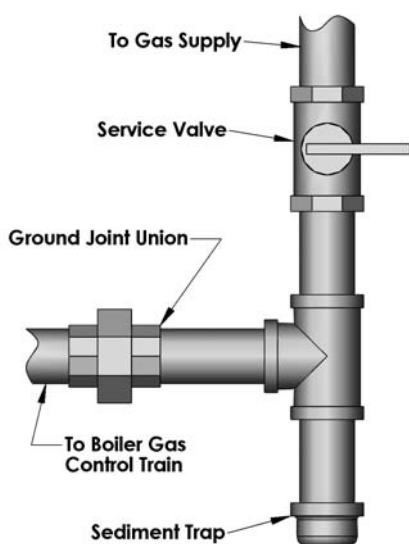
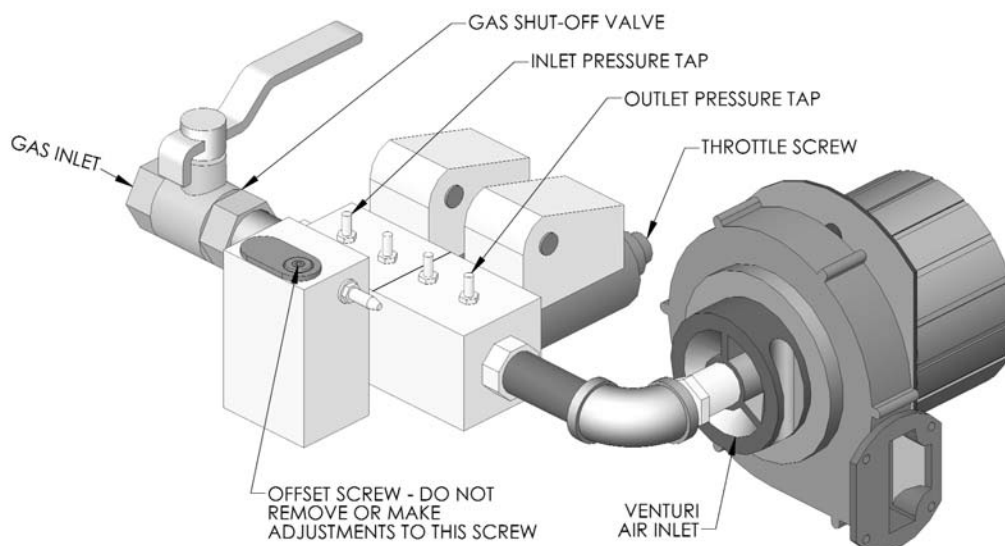

Figure 4.1: Gas Supply Piping – Sediment Trap
Figure 4.2: Gas Valve/Venturi PI-399
2. Install a sediment trap as shown in Figure 4.1. Be sure to allow clearance from the floor for removal of the pipe cap.
4. Install a service valve as shown in Figure 4.1 to allow the gas supply to be interrupted for service.
7. Figure 4.2 shows the gas shutoff valve for the Pinnacle Boiler. This valve is to be used in addition to the gas service valve shown in Figure 4.1.
1. Figure 4.2 shows an illustration of the gas valve/venturi assembly for the Pinnacle PI-399.
- a. The throttle screw on the valve should not be adjusted without a means to measure carbon monoxide (CO) and carbon dioxide (CO₂) emissions.